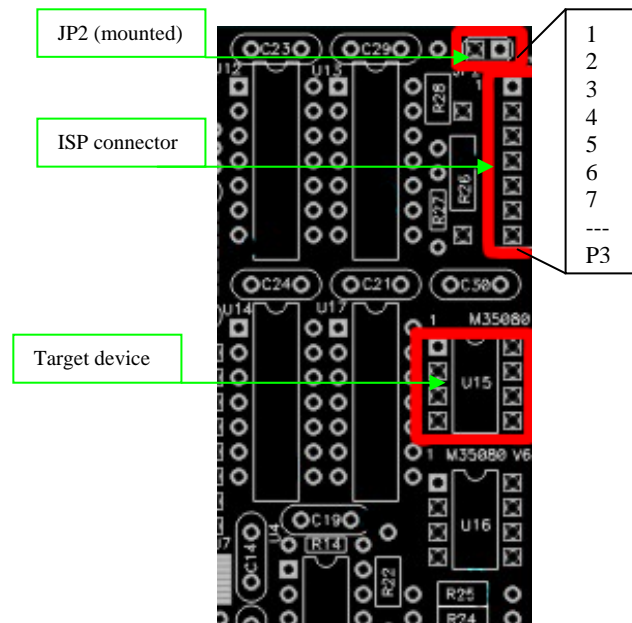
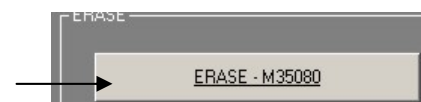

Figure 16.
Figure 17.
Step 1: Jumper JP2 must be mounted (M35080 OBP and ISP modes) then insert target device M35080 inside of the U15 socket or connect target board to ISP connector according to signals connector P3 (See Figure 16, Figure 17)